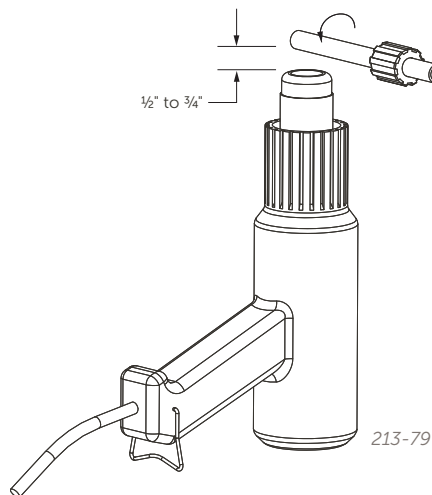

Figure 1.
1. If using an Entegris hot air gun (part number 213-79), set the hot air gun on "high" (Figure 1). Hold the PFA tubing  $\frac{1}{2}$ " to  $\frac{3}{4}$ " above the heater and slowly rotate the tubing 360° for the approximate time specified in Table 1 or until a fine, clear line appears around the tubing.